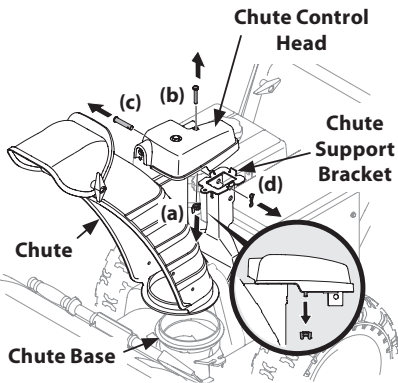

Figure 2-21
- 1. Remove wing nut (a) and hex screw (b) from chute control head and clevis pin (c) and cotter pin (d) from chute support bracket. Position chute assembly (forward-facing) over chute base. See Figure 2-21.